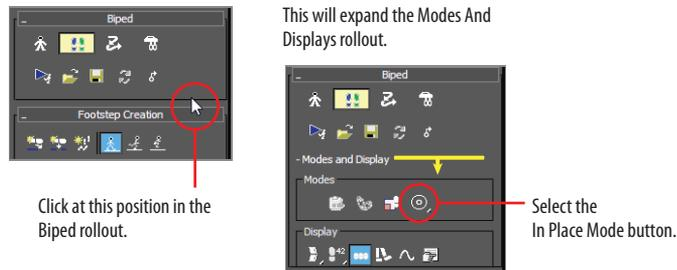

FIGURE 12.28 In the Biped rollout, click at the bottom to reveal the Modes And Display rollout.
2. At the bottom of the Biped rollout, click the Modes And Display text with the plus sign to the left of it. This is a small rollout located inside of another rollout that expands to show additional display-related tools. It is hidden and difficult to find, as shown in Figure 12.28.
3. In the Modes And Display rollout, click the In Place Mode button (⊙), as shown in Figure 12.28.